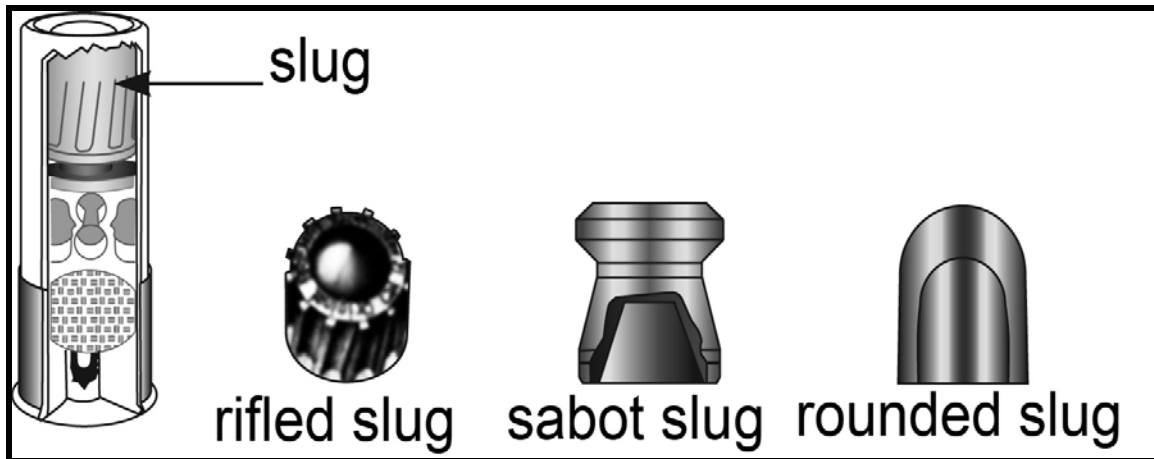

Figure 28. Types of shotgun slugs
- a. The use of smooth slugs, rifled slugs, and slugs contained in a sabot or plastic sleeve, is becoming more common in modern shotguns (Figure 28). This allows shotguns to fire single projectiles (bullets).